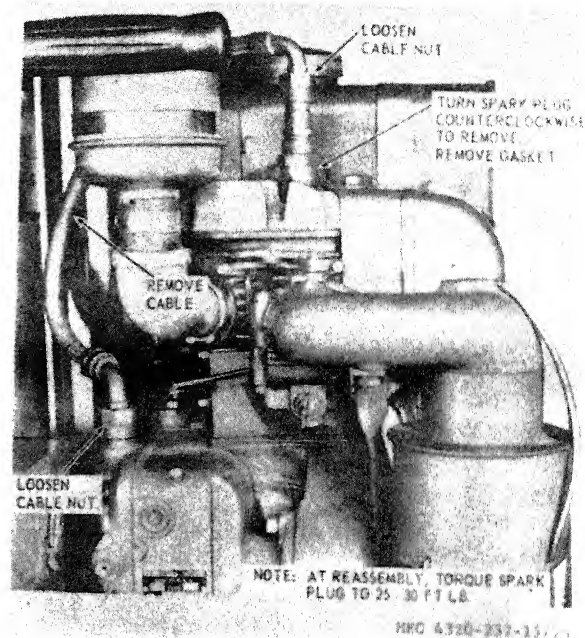

Figure 25. Spark plug and cable, removal and installation.
a. *Removal.* Refer to figure 25 and remove the spark plug and cable.
(1) Clean the spark plug and cable with a cloth dampened with an approved
(2) Inspect the spark plug cable for cracks, frayed or damaged shielding, worn or damaged connectors, or other damage.
(3) Inspect the spark plug for cracks, worn or damaged threads, corroded or eroded terminals. If spark plug is in good condition, gap spark plug terminals to 0.030 inch before installation. If new plug is installed, gap it to 0.030 inch.
c. *Installation.* Refer to figure 25 and install the spark plug and cable.